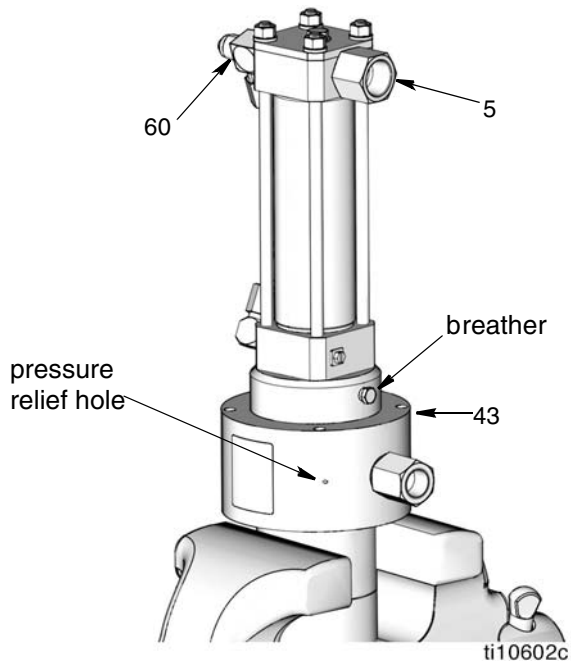

FIG. 4
| Leak at output pressure relief hole (FIG. 4, page 10). | Wrong style fitting. | Install correct fitting. |
4. Disconnect fluid outlet hose (C) (Typical Installation, page 4) from displacement pump.
5. Slowly loosen hydraulic supply fitting (60) and return fitting (5) (FIG. 4). Remove hoses.